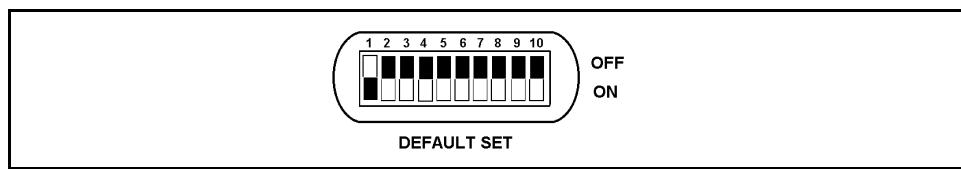

Figure C-1. Default Switch Settings
6. Locate the **DEFAULT SET** switches on the rear panel and set switch #10 to the Test position (Figure C-1). This allows the bleed valve to be operated manually using the **Bleed On/Off** switch on the front panel.
The 10-position **DEFAULT SET** switch on the rear panel controls the AS40 Automated Sampler default operating parameters. Figure C-1 shows the factory settings for the switches; SW 1 is on, all other switches are off. To change a setting, first **turn off the power**; then, push the switch down to turn it on, up to turn it off.